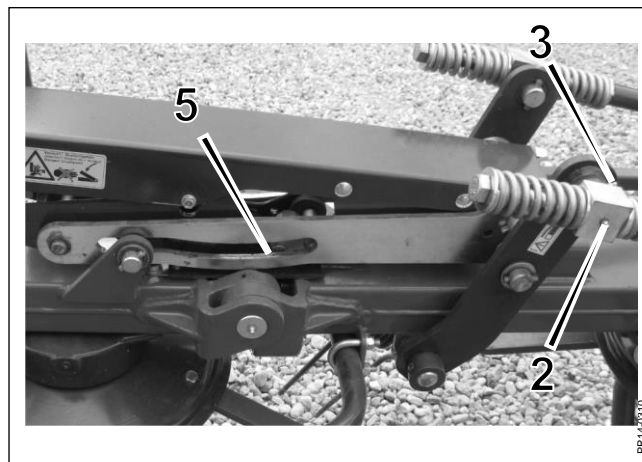

Fig.8-6
- Fig. 8-6 2. Joint piece - weekly / 50 hours**